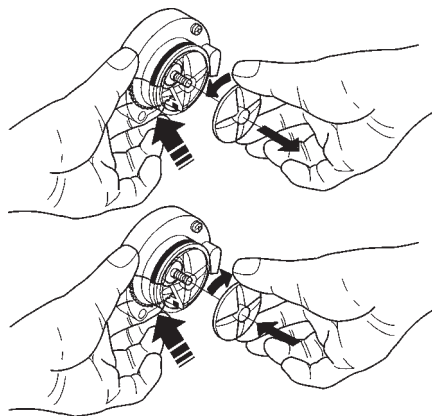

Fig. 11
- in order to remove the impellers, block the disk fitted on the mixer shaft with a finger (see Fig. 11).